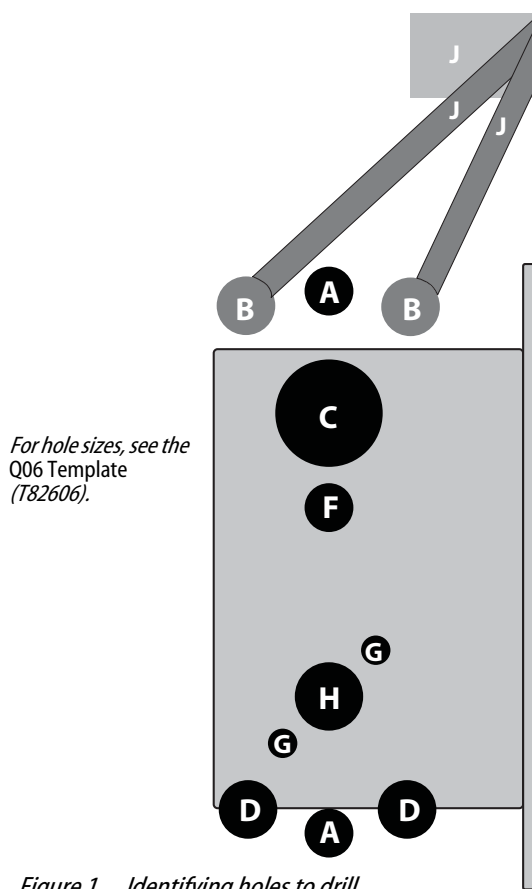

Figure 1 Identifying holes to drill
- 2 See the *Holes by Function* table and Figure 1 to determine the holes to be drilled for the lock function.